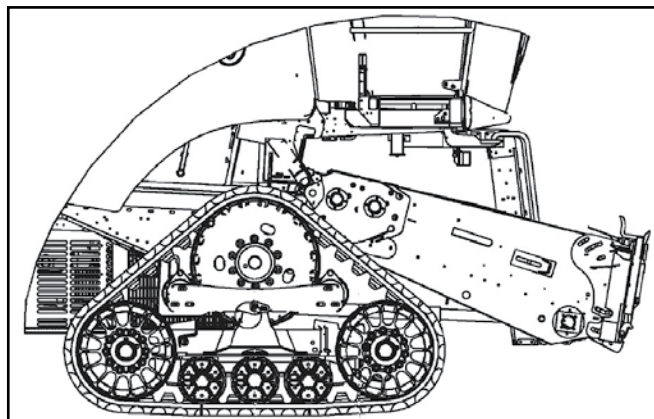

Figure 39.2
- Front axle rubber tracks are available to give more flotation in soft ground or muddy conditions (see figure 39.2)